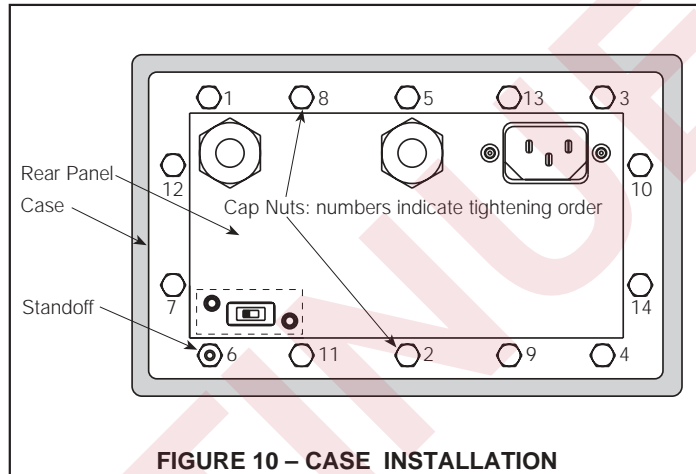

FIGURE 10 – CASE INSTALLATION
- (1) Slide the case onto the unit, being careful that the capacity label does not interfere with the gasket seal.
- (2) Install one drilled standoff at position 6 in Figure 10 and hex and/or cap nuts at all other positions. The standard model has 4 threaded studs; the NEMA 4 model has 14.
- (3) For the standard model, tighten cap nuts and standoff slightly to compress the gaskets.
- (4) For the NEMA 4 model, use the tightening sequence shown in Figure 10. Using #8-32 small pattern hex nuts on locations 1-5 and 7-14 and the drilled standoff at 6, tighten the hex nuts and standoff by small increments so the gasket compresses evenly. To assure a watertight seal, tighten the hex nuts and standoff to a final torque value of 4 lb-in. After completion of the final torque sequence, install the cap nuts on locations 1-5 and 7-14 to a torque of 4 lb-in.